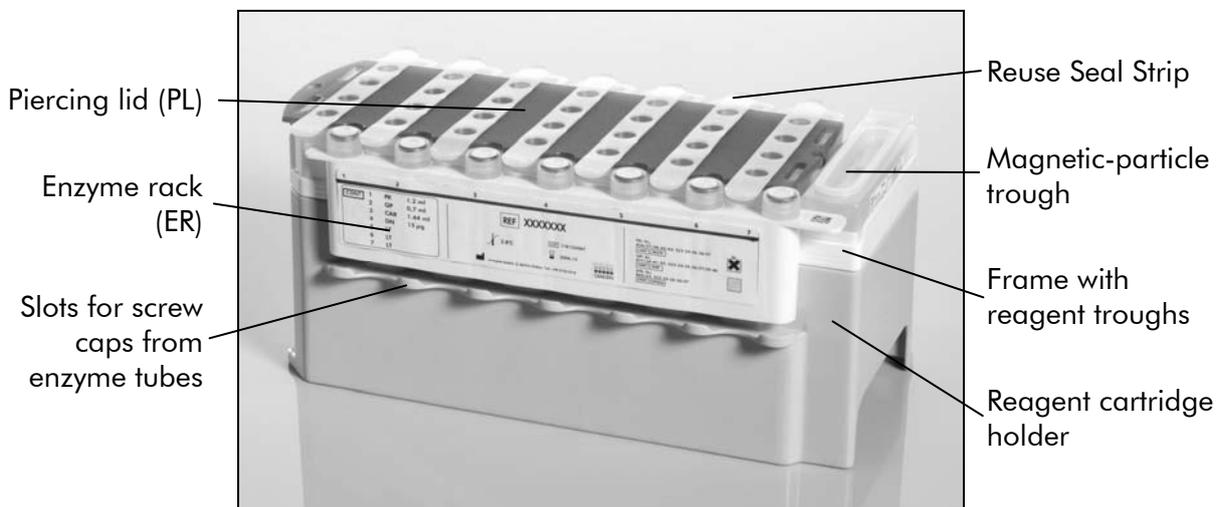

Figure 5. QIA Symphony reagent cartridge (RC). The reagent cartridge (RC) contains all reagents required for the purification procedure.
Reagents for purification of nucleic acids are contained in an innovative reagent cartridge (RC) (see Figure 5). Each trough of the reagent cartridge (RC) contains a particular reagent, such as magnetic particles, lysis buffer, wash buffer, or elution buffer. Partially used reagent cartridges (RC) can be reclosed with Reuse Seal Strips for later reuse, which avoids generation of waste due to leftover reagents at the end of the purification procedure.
After the magnetic-particle trough cover is removed and the enzyme rack tubes are opened (screw caps can be stored in dedicated slots, see Figure 5), the reagent cartridge (RC) is subsequently loaded into the “Reagents and Consumables” drawer.